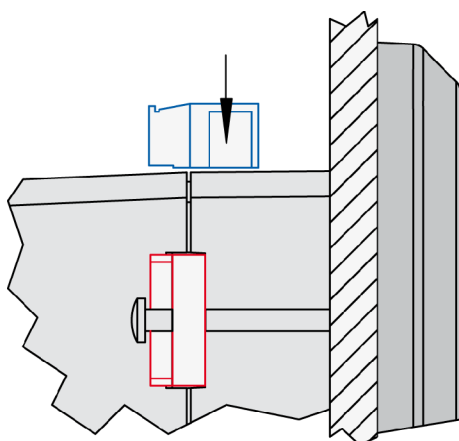

Fig. 15: Reattach terminals
7. ➔ Reattach the wire connection terminal strip (Fig. 15) and secure them with the side screws.